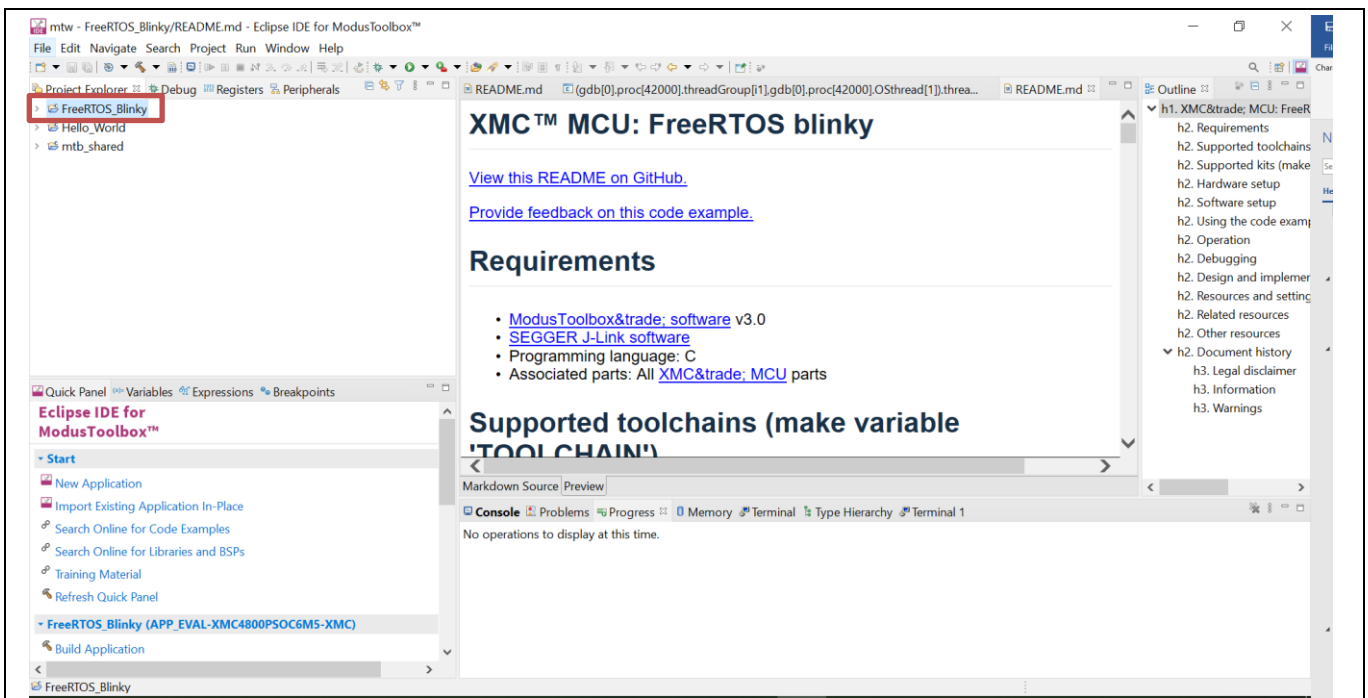

Figure 12 Create a new project.
11. Wait for the import to complete. If no any error message appears, the project will be available in your workspace (project explorer) as shown in Figure 12.